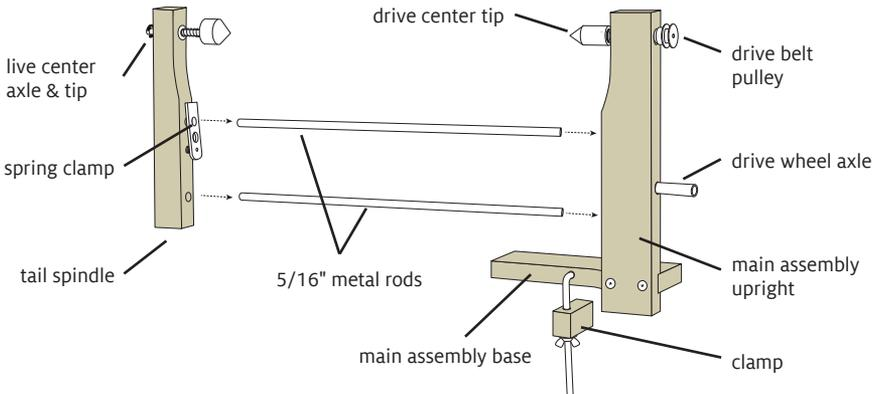

FIGURE 1: INSTALL TAIL SPINDLE (DOUBLE-END WINDER ONLY)
1. Place the main assembly on a corner of a sturdy table, with the drive wheel axle pointing toward the floor. Using a hammer and a scrap piece of wood, tap one end of each 5/16" metal rod into the holes on the bobbin winder upright (Figure 1). The rods will measure about 13-1/2" when they are in all the way.
2. Attach the tail spindle: press the spring clamp down and slide the spindle onto the metal rods with the winding tips facing each other (Figure 1).
1. Replace the drive center tip on the main assembly upright (see Figure 1 on page 2): use the hex wrench to loosen the set screw in the tip and pull the tip off the axle. Insert the new drive center tip firmly on the axle and tighten its set screw.
2. Remove the installed live center axle and attached tip from the tail spindle (see Figure 1 on page 2): remove the e-clip at the outer end of the axle. Slide the axle and attached tip out of the tail spindle, removing 3 washers, another e-clip, and the spring.